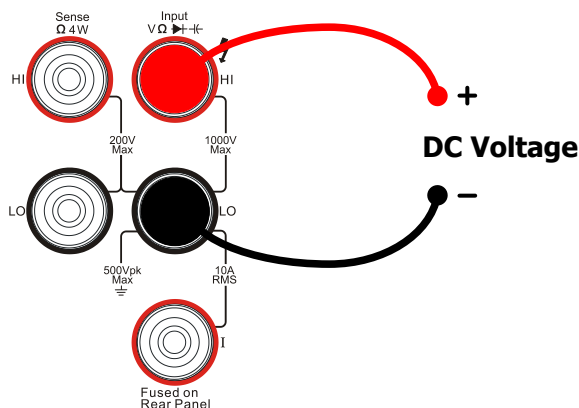

Figure 2-4 Sketch map for connecting
1. Connecting the red lead (Test leads) to Terminal Input-HI (tested circuit) and black lead to Terminal Input-LO as shown in Figure 2-4.